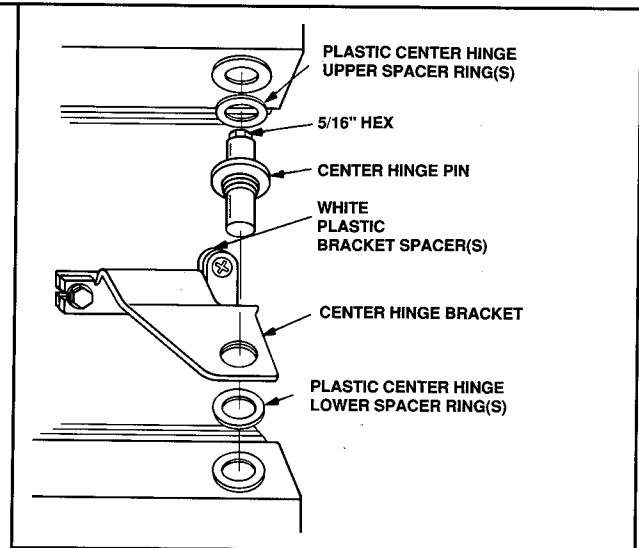

Figure 63
- a. Save plastic center hinge spacer ring(s) from center hinge pin and use in Step 19. See Figure 63.